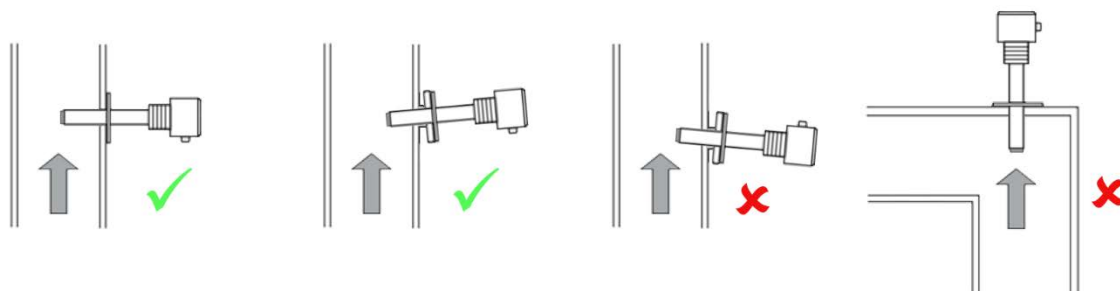

Figure 5-5 - Mounting Examples
**NOTE:** Ensure the gas flow is not going straight into the gas sampling tubes; refer to Figure 5-5.